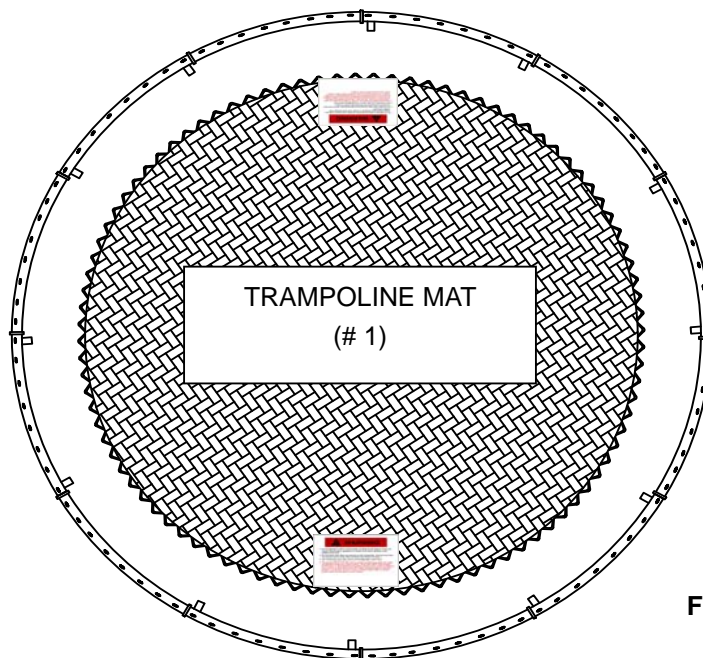

FIGURE 5
A. Place the Trampoline Mat (# 1) inside the frame with the warning labels facing up as shown in FIGURE 5.